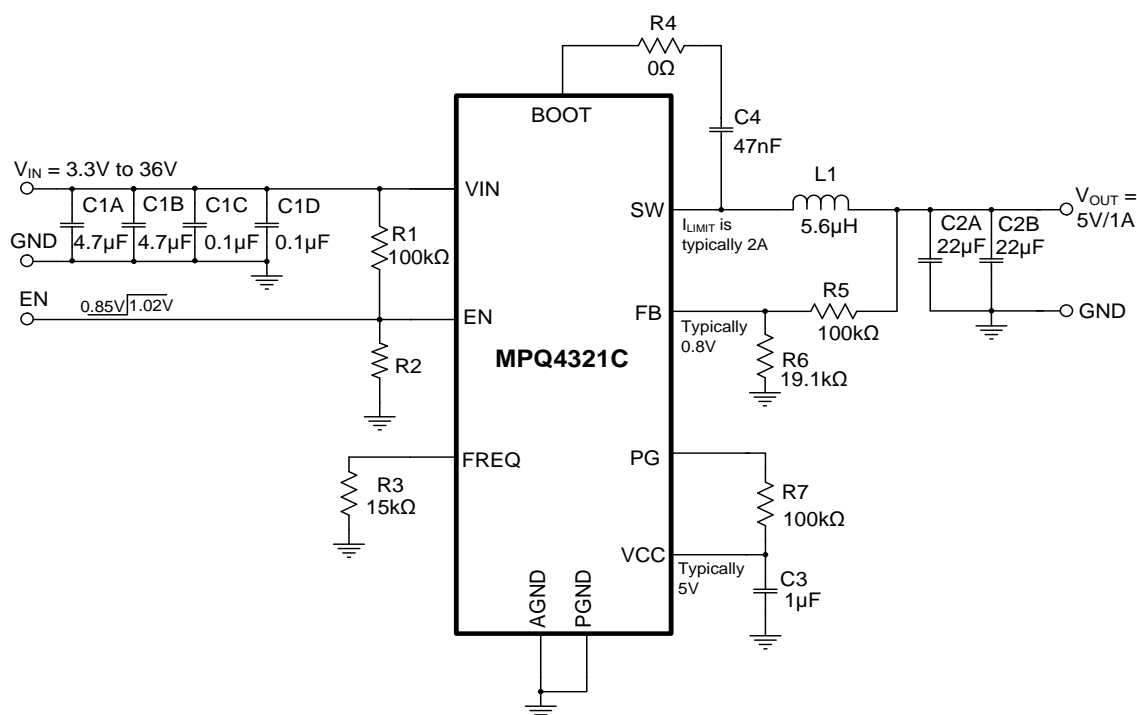

Figure 10: Typical Application Circuit with Bootstrap Resistor (R4) ($V_{OUT} = 5V$, $f_{sw} = 2.2MHz$)
16) The recommended PCB layout is based on Figure 10 on page 35.